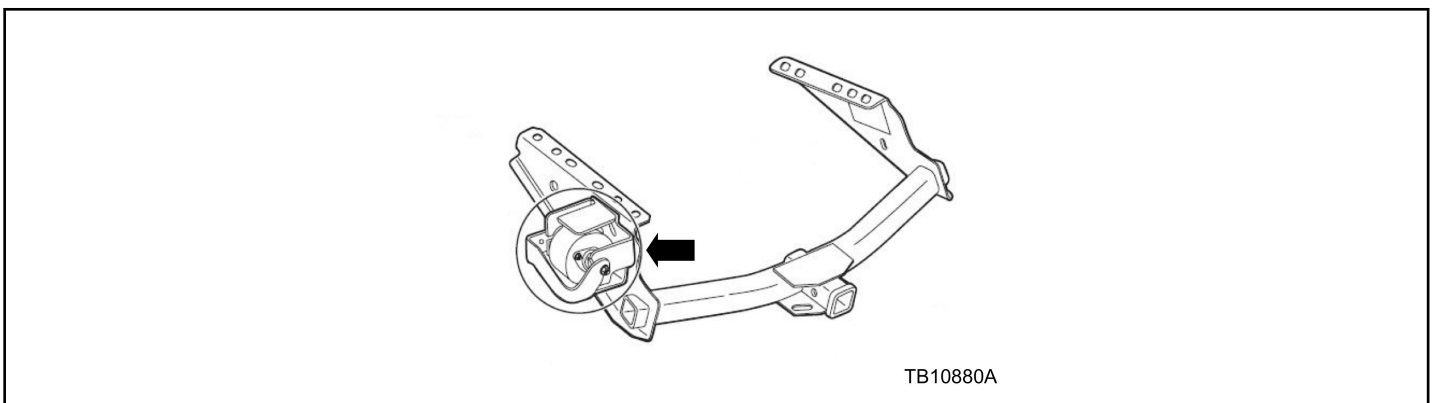

Figure 4 - Article 16-0087
5. Mount the cage damper and install the bolts. Tighten to 63 Nm (46 lb-ft). (Figure 4)